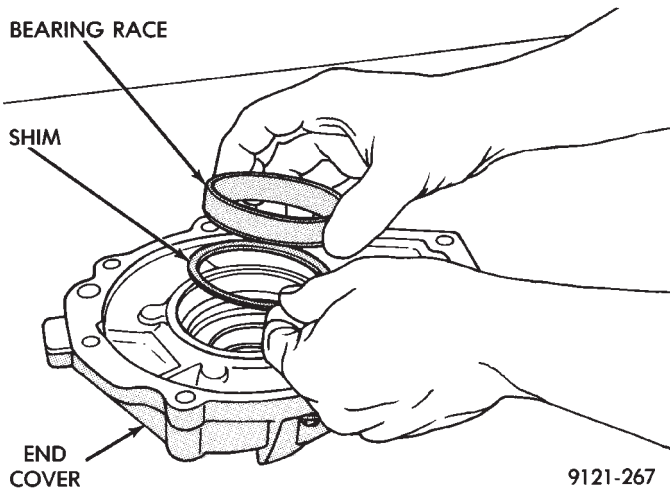

Fig. 6 Bearing Shim and Race
(3) Reinstall the original bearing race and shim using special tool No. 6522 (Fig. 6 and 7).